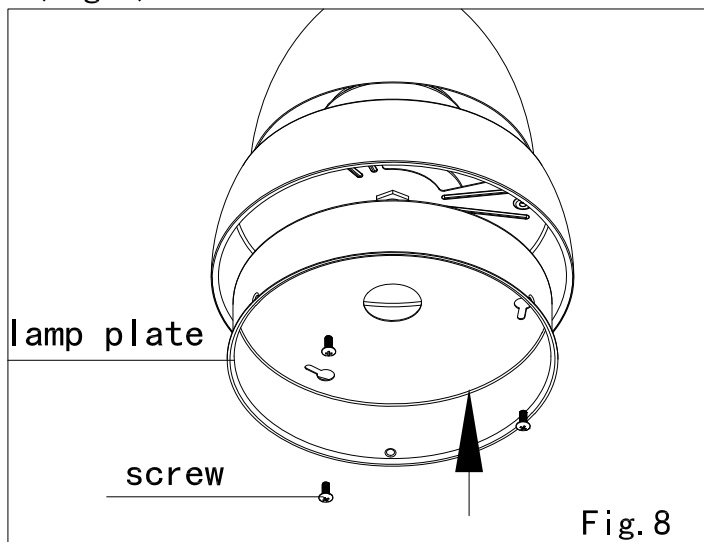

Fig.8
- 1, Feed the wire through the center hole of the lamp plate. (Fig.8)
- 2, Insert the three screw, into place and then tighten all three screws. (Fig.8)